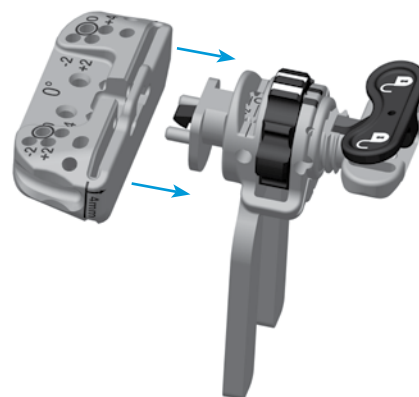
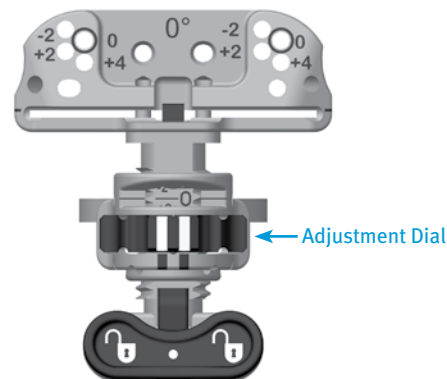

Fig. 126
Fig. 127
- Attach the 0° Captured/Uncaptured Cutting Head to the Distal Femoral Distal Femoral Resection Guide (Fig. 126). The adjustment dial on the resection guide can be set from “-2” to “+4”. The “0” represents a 10mm distal resection (Fig. 127). The -1 setting represents a 9mm resection while the +4 setting represents a 14mm resection. Upon rotation, the dial has palpable stops and clear markings at each 2mm location. One half rotation creates 1mm of adjustment. Insert the Distal Femoral Resection Guide with the cutting head into the Femoral Valgus Alignment Guide until the cutting head rests on the anterior femoral cortex. Verify the desired resection setting on the Distal Femoral Resection Guide and/or rotate the adjustment dial to attain the desired setting. (Fig. 128a). Insert trocar-tipped pins through the two standard pin holes marked “0” on the anterior surface of the cutting head (Fig. 128b). Additional 2mm adjustments may be made by removing the cutting head from the pins and replacing the cutting head on the pins in the sets of holes marked -2, +2, and +4. The markings on the cutting head indicate, in millimeters, the amount of bone resection each will yield relative to the initial distal resection setting.